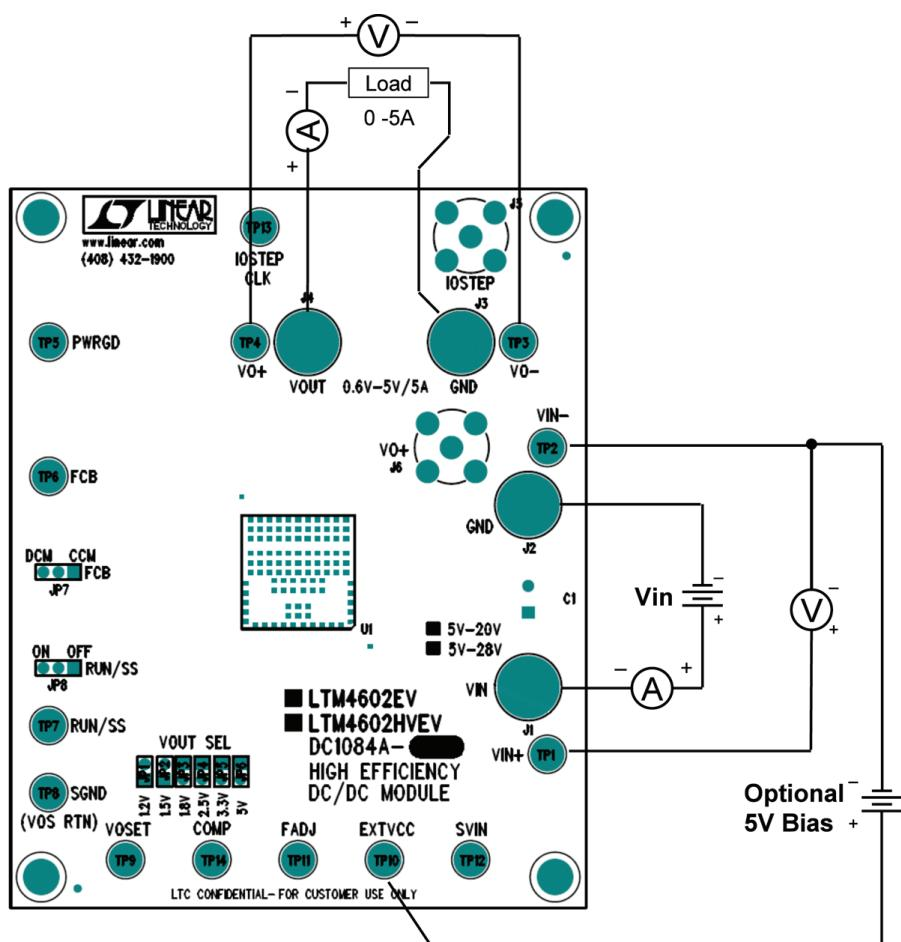

Figure 1. Test Setup of DC1084A-A (EXTVCC Bias Supply is Optional)
Demonstration circuit DC1084A-A is an easy way to evaluate the performance of the LTM4602EV. Please refer to Figure 1 for proper measurement equipment setup and follow the procedure below:
2. With power off, preset the load to 0A and  $V_{IN}$  supply to be less than 20V. Connect the input power supply, load, optional 5V bias supply and meters as shown in Figure 1. The optional 5V bias supply must be off anytime the supply to  $V_{IN}$  is turned off.